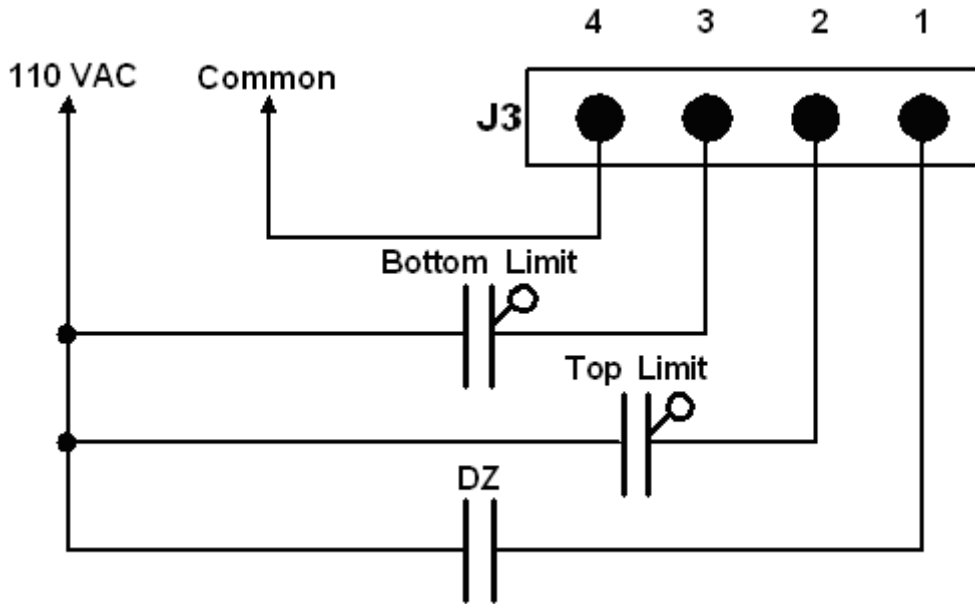

Figure 3
10. Referring to Figure 3 on the following page, wire one side of a normally open contact from the DZ relay to the same supply as the top and bottom limit switches. Wire the other side to J3-1 on the new Absolute Encoder board.